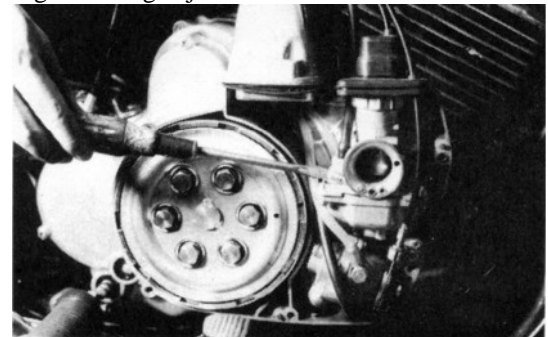

Fig. 78 Pilot air screw adjustment
- ★ When the pilot air screw is turned clockwise, the gasoline/air mixture becomes richer and when it is turned counterclockwise the mixture becomes leaner. Correct adjustment is approximately 2 turns out. (Fig. 78)